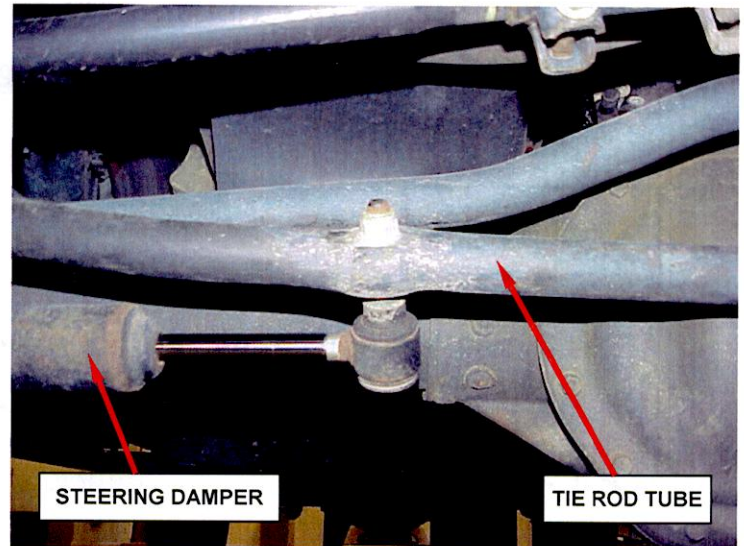

Figure 1 – Steering Linkage
NOTE: The initial steering linkage inspection process (Step 1 of the service procedure) can be done by write up personnel in the write up area. Vehicles found with the steering linkage shown in Figure 1 can be immediately returned to the customer. See the “Completion Reporting and Reimbursement” section of this recall for special claims processing information.
- If the steering damper mounts to the tie rod tube as shown in Figure 1, the steering linkage is good. Return the vehicle to the customer. No further action is required.